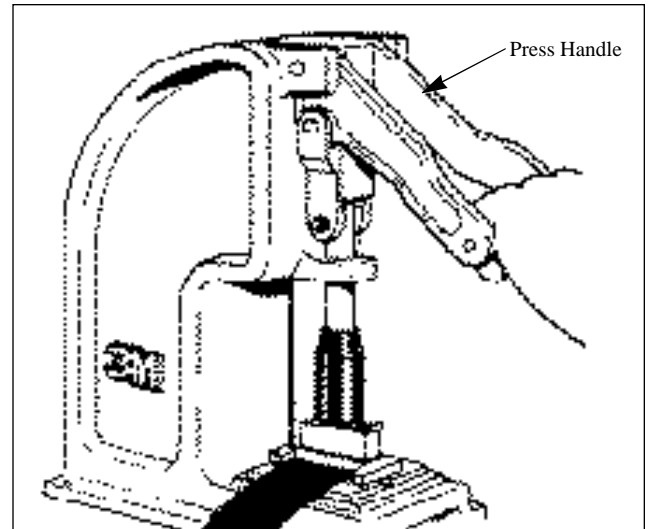

Figure 8
5. Lower the PRESS HANDLE firmly to complete the Cable/Connector Assembly. (See Figure 8)